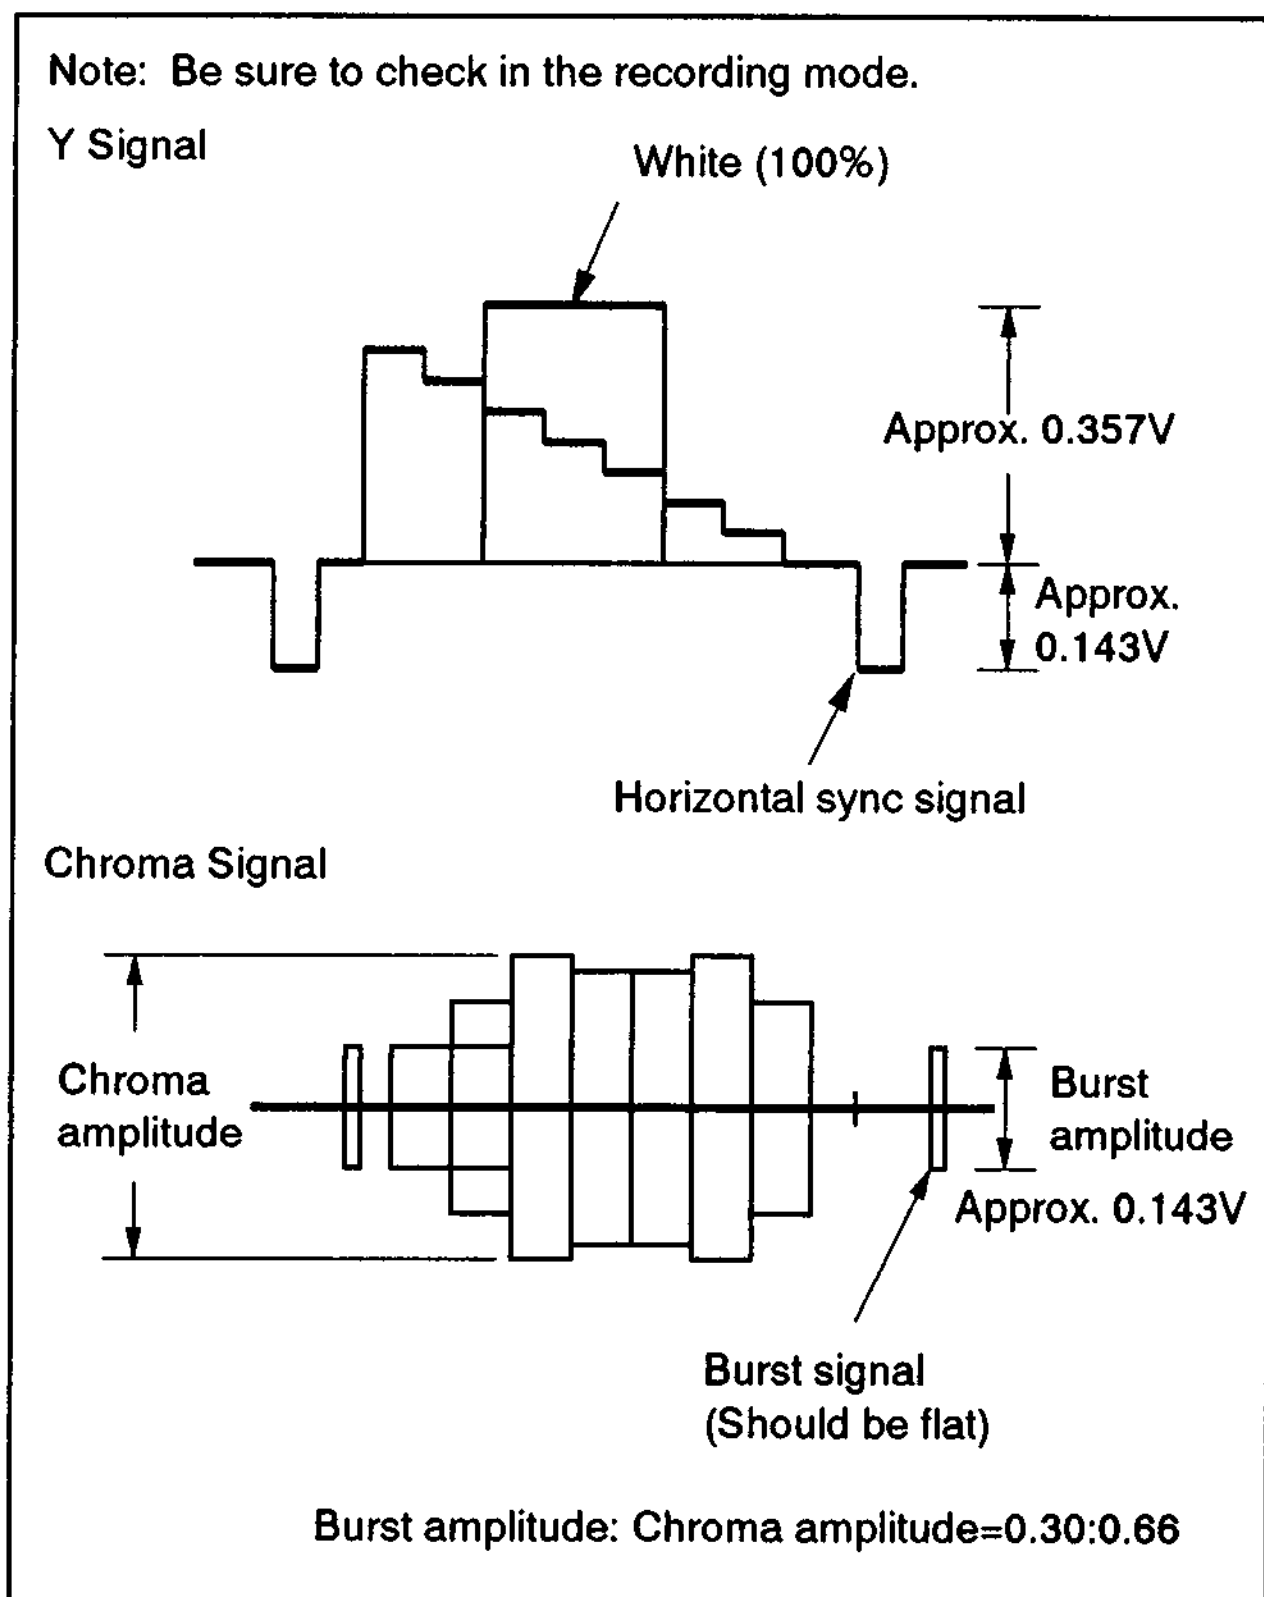

Fig. 7-3-2. Color bar signal of pattern generator
Connect the oscilloscope to Pin ⑬ of CN203 on VS-123 board, and check that the sync signal of the Y signal is approximately 0.143 Vp-p and that the amplitude of the video section is approximately 0.357 Vp-p. (When a VTR with the S VIDEO output terminal is used, also check that the chroma signal and burst signal have not remained.) Connect the oscilloscope to Pin ⑰ of CN203 on VS-123 board, and check that the burst signal amplitude of the chroma signal is approximately 0.143 Vp-p and flat, and that the amplitude ratio of the burst signal to the chroma signal is 0.30 : 0.66. The Y and chroma signals used in the adjustment are shown in Fig. 7-3-2.